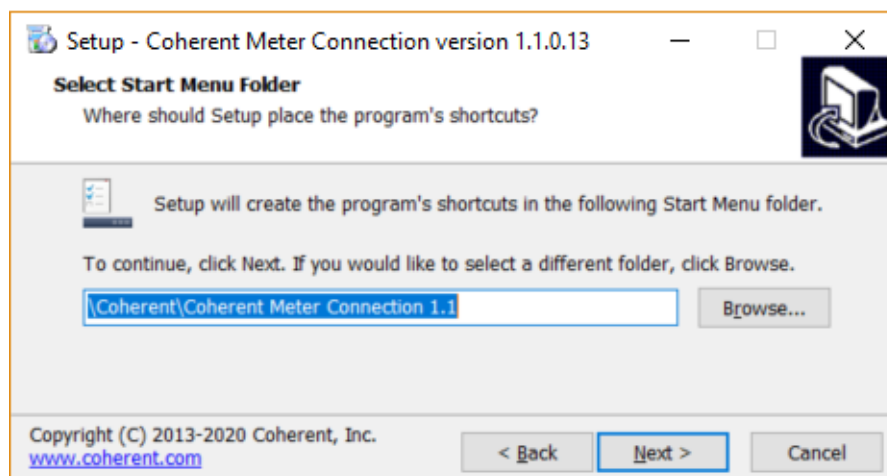

Figure 3-5. Select Start Menu Folder
6. Select a directory on the workstation for the Start Menu where the program is to be installed, as shown in Figure 3-5. Accept the selection or browse to a different location, and then click Next.